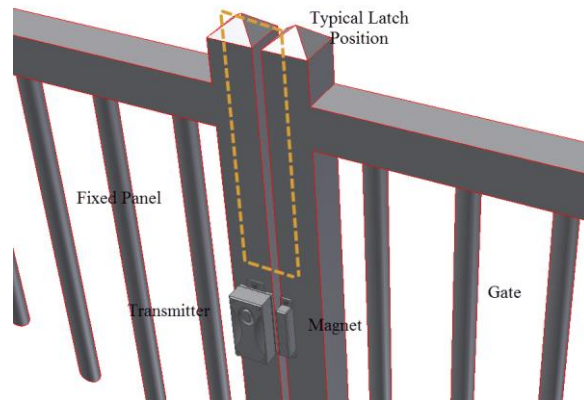

Figure 24
7. Position the transmitter assembly against the pool facing surface of the gate post below the level of any existing child proof latch, and with the side of the transmitter assembly nearest the gate flush with the gate facing side of the gate post as shown in figure 24. Mark the screw hole positions through the screw tabs. Drill screw holes to suit the self-tapping screws provided and secure the transmitter assembly to the gate post.
8. Position the screw tab magnet on the pool facing surface of the gate frame adjacent the transmitter assembly and with the side of the screw tab magnet nearest the gate post flush with the gate post facing side of the gate frame as shown in figure 24. Mark and drill screw holes for the screw tab magnet and secure the screw tab magnet to the gate frame.